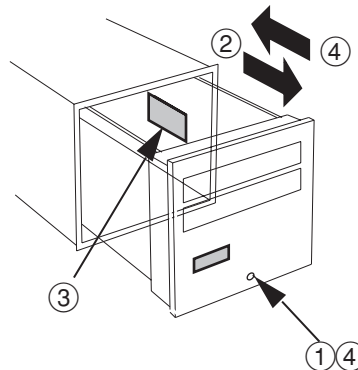

Fig. 3.1 Typical Identification Label and Location – Model MX21 SP15 Digital Display
3.1.1 Model MX21 SP15 Indicator Unit – Fig. 3.1